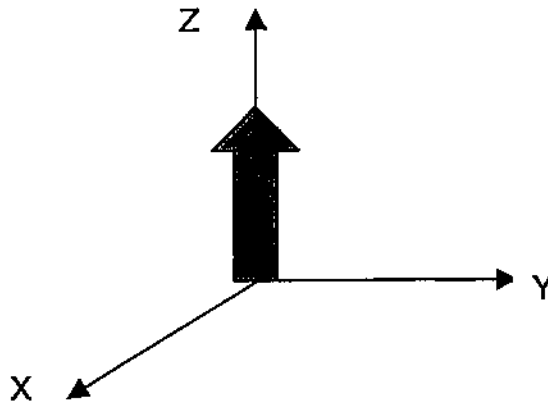

Figure 2. Roll, Pitch and Yaw of the Arrow
2. Consider the arrow sign shown in Figure 2. Sketch the arrow position after each intermediate position of the following Roll-Pitch-Yaw operation: roll 90° , pitch -90° , yaw 90° (Hint, this is a "X-Y-Z fixed angles" case).(5 points).